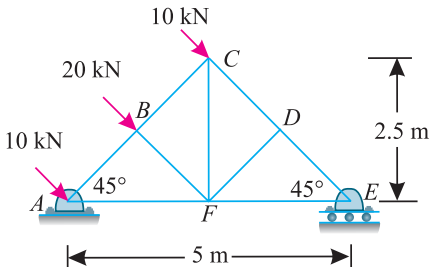

**Fig. 13.67.**
2. A cantilever braced truss supported on rollers at E and hinged at A is loaded as shown in Fig. 13.67. Determine graphically or otherwise, the forces in the members of the truss, also determine the reactions at A and E.